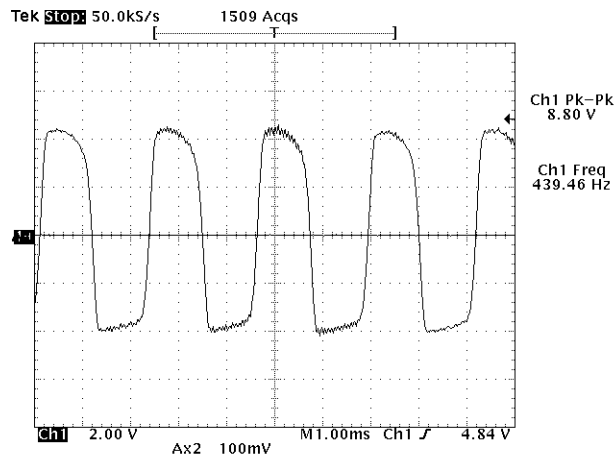

Figure 6-16: Tuning Fork Test (AAR #1, #2)
9. Disconnect the 24-Volt power supply. Connect the scope to AAR #1 and #2. Activate the 440 Hz tuning fork and place it 3” in front of the DR-50’s horn (hold stationary with vise or some such device to stabilize signal.) Is a 6 V_{p-p} (approximately) @ 440 Hz signal present (as in Figure 6-16)?